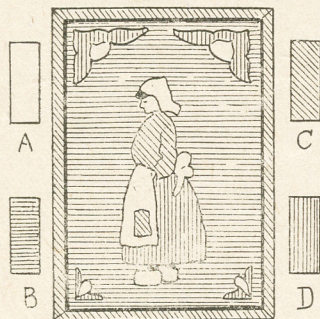

Fig. 1—A panel of four woods
Fig. 1 shows the suggested panel, using four different coloured woods. A key to these is given, (A) being sycamore or holly; (B) satin walnut or other light wood; (C) light mahogany; (D) dark walnut. If the reader can obtain other woods of the rarer species, all the better, as long as a good contrast in tones is obtained.